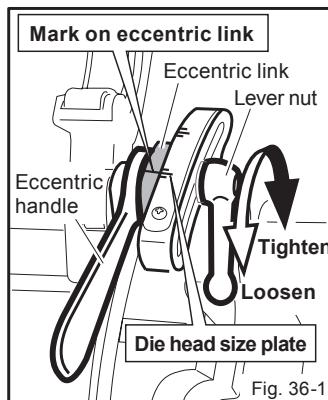
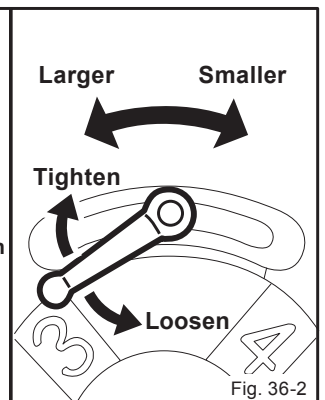

Fig. 36-1
Fig. 36-2
- (1) Before adjusting the size of the thread to be cut, bring the eccentric handle towards you, until it is in the position indicated. (Fig. 36-1)
- (2) Lightly tighten the lever nut securely by hand. No hammering is required etc.
- (3) Thread size can be simply adjusted with the lever nut. Move it towards you to increase, and away from you to decrease the thread size. (Fig. 36-2)